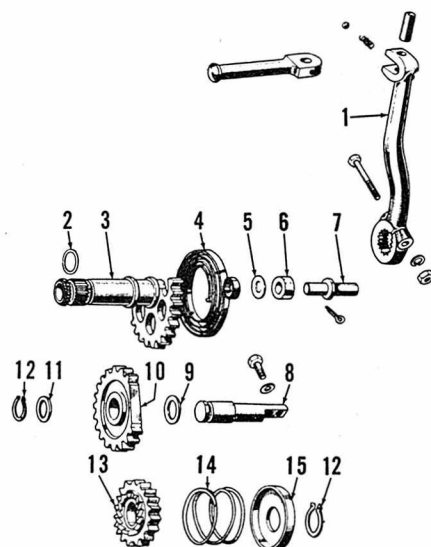

**Fig. W14—Exploded view of transmission assembly.**
The transmission assembly is shown in Fig. W14. Shims (3) are used to adjust side play of shafts. Refer to previous paragraph for adjustment procedure of gear selector.